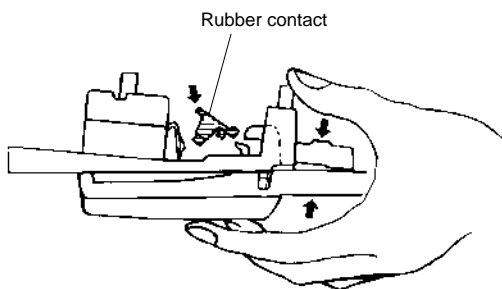
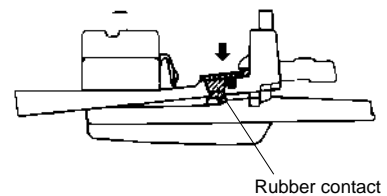
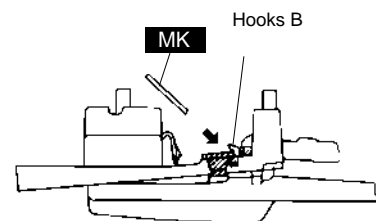

Fig.9
Fig.10
Fig.11
- 17-2 Install the rubber contacts in the assembly while pressing the keys as shown in Figure 9. Check that the rubber contact has been firmly placed into position in the area indicated by the arrow in Figure 10.
- \* When fitting the rubber contacts, raise both ends of the frame so that keys do not push the rubber contact up. Install the MK circuit board in the assembly so that the hooks B hold it as shown in Figure 11. (Fig.9, 10, 11)